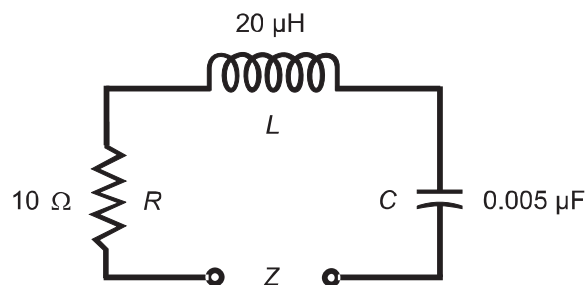

Fig. 3-22. Illustration for Quiz Questions 1 through 3.
1. What is the approximate reactance of the capacitor shown in Fig. 3-22? Assume the component values are exact.
2. At a frequency of 10,000 kHz, what is the approximate complex impedance of the circuit shown in Fig. 3-22? Assume the component values are exact.
3. What is the approximate resonant frequency of the circuit shown in Fig. 3-22? Assume the component values are exact.